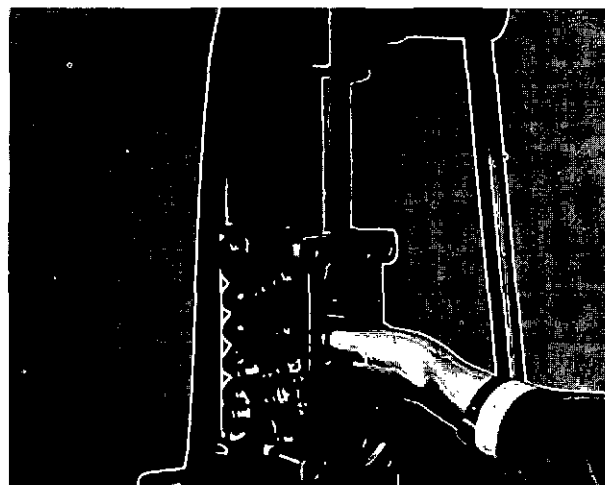
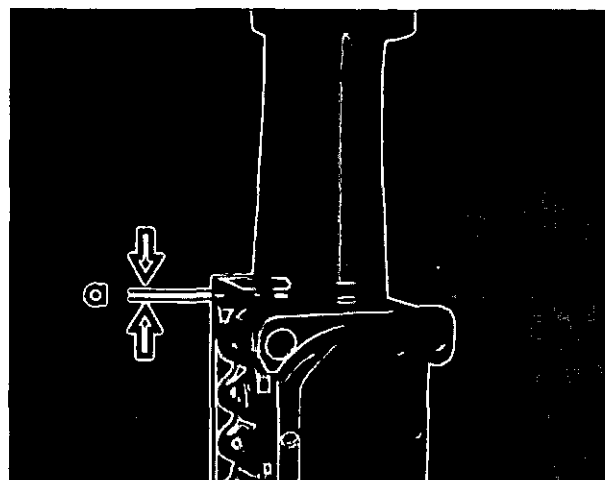

Fig. 21 Removing outer race from governor end
Fig. 22 Re-positioning outer race (first operation)
- (a) Remove bearing outer race at governor end (fig. 21). Then press it in again until it protrudes 0.118 inch (0.3 mm), as shown by dimension 'a' in fig. 22.